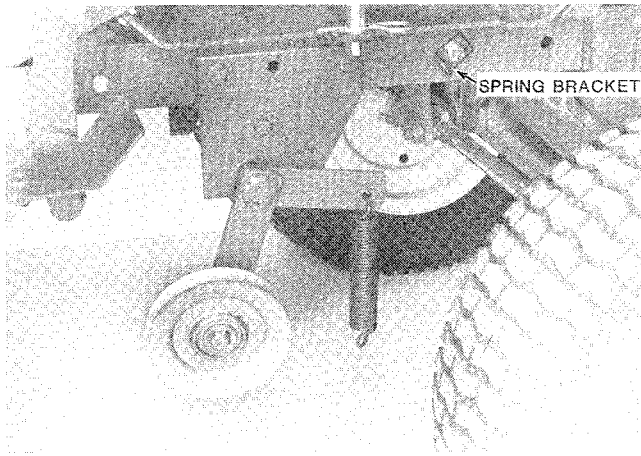

FIG. 15. Install Mid-Mount Idler Bracket
INSTALL MID-MOUNT IDLER AND BELT (Fig. 15)
Install the mid-mount idler bracket in the mid Attach-A-Matic hitch. Secure the spring bracket to the frame with a 3/8-16 x 1 bolt and lock nut (Fig. 15). Tighten the bolt so the spring bracket is still free to move.
2. Remove the mid-mount idler bracket (Fig. 15)